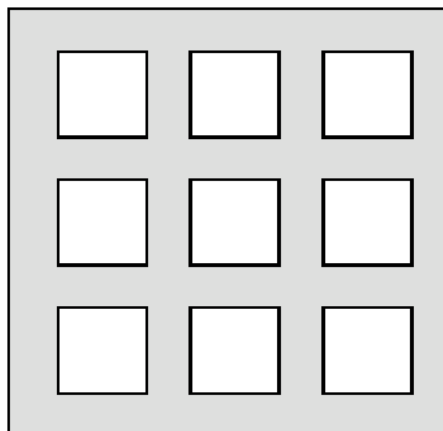

Figure 7. Solder Paste Application on Exposed Pad
3. For the PCB thermal pad, solder paste should be printed on the PCB by designing a stencil with an array of smaller openings that sum to 50% of the QFN exposed pad area. Solder paste should be applied through an array of squares (or circles) as shown in Figure 7.